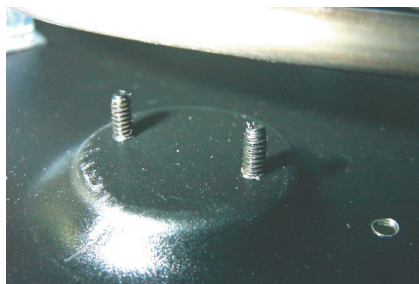

Figure 10 - Thermal Reset Switch Mounting Screws
3. Apply a SMALL drop of thread locking sealant (rated to 300° F, such as Loctite Thread Locker Blue) to each of the thermal reset switch mounting screws (see Figure 10). Torque screws to 6 to 9 inch-pounds.